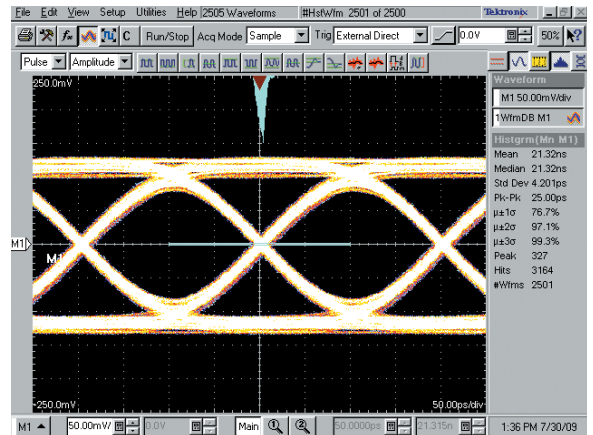

Figure 4. De-Emphasis Waveforms for 2.5G and 5.0G Operation
In *Figure 4*, a detailed oscilloscope waveform shows different styles of De-Emphasis (DE) with approximately 6 dB of gain. The ideal DE pulse width will quickly reach maximum amplitude, but decay over a slightly longer period of time. This analog de-emphasis behaves in a manner very similar to the multi-tap design of a high-speed digital serializer, producing maximum gain at the Nyquist frequency and reduced gain as the frequency decreases. This technique best approximates and compensates for attenuation in the transmission media.